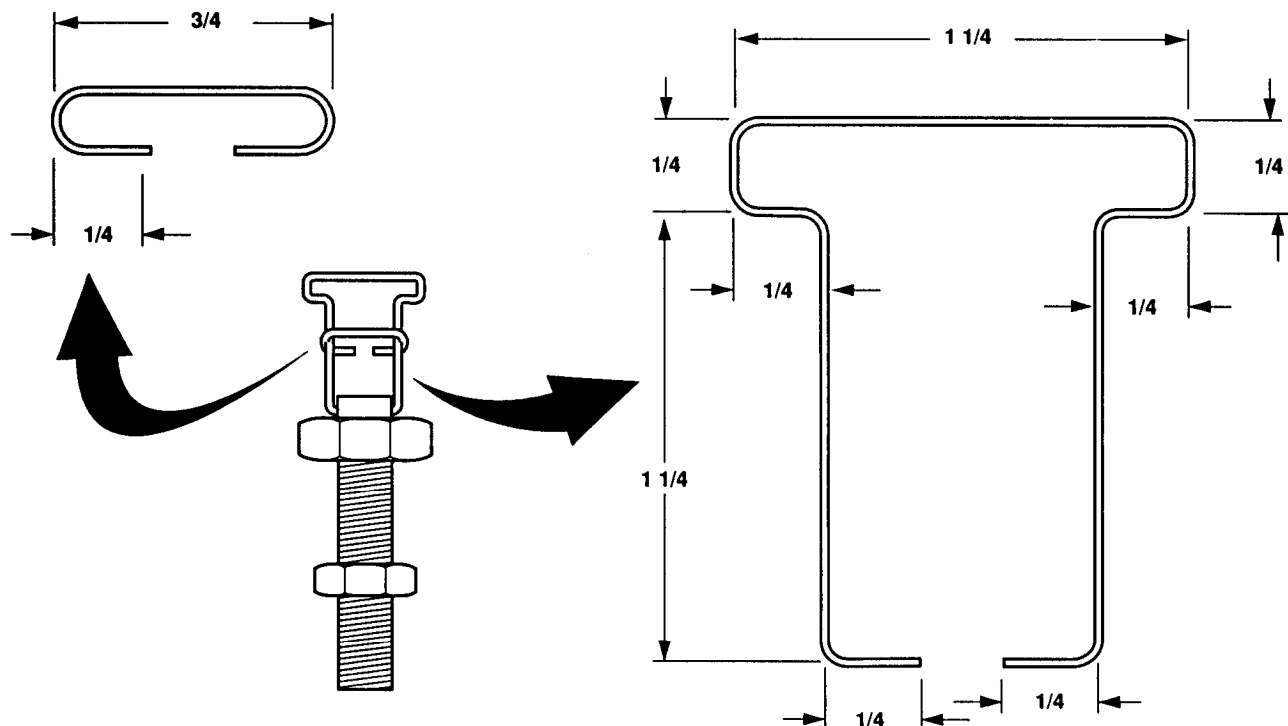

Figure 4-16. Switch Box Load Terminal Repair.
1. Release clamping catch (5) and open load terminal door (1).
3. Make sure nut (13) is installed on terminal body (14).
4. Fabricate and install terminal clip in accordance with figure 4-16.